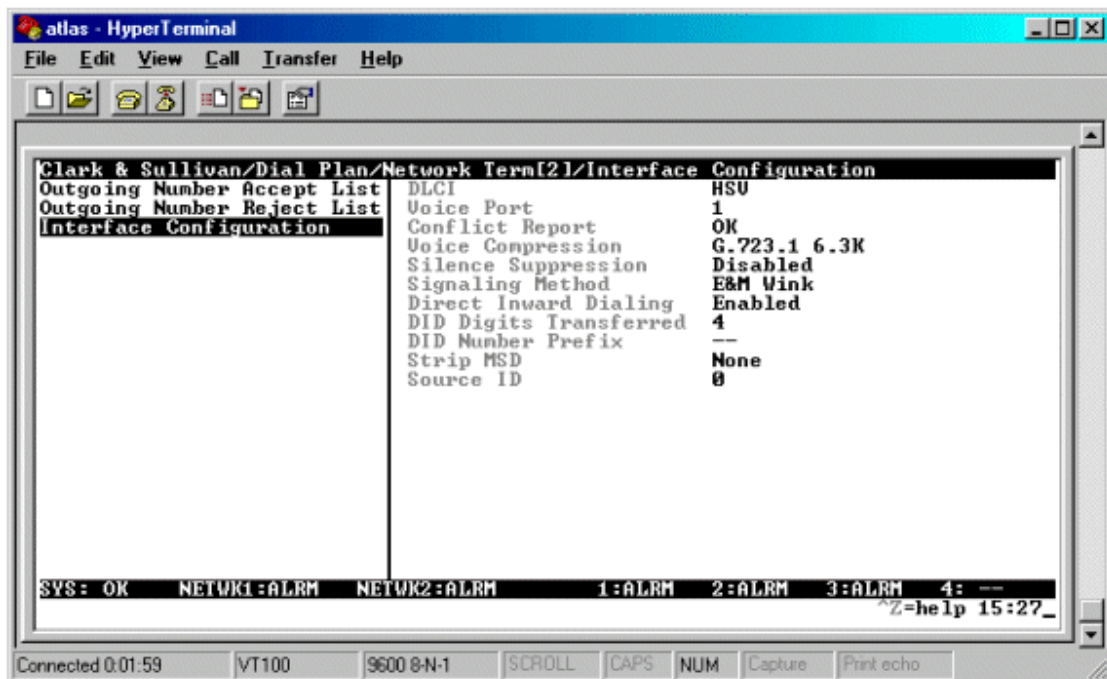

Figure 17
4. Hit >esc&lt: until you are back to the **User Term** screen. Go to **lfce Config** and press <enter>. You should now see the screen as shown in **Figure 17**.